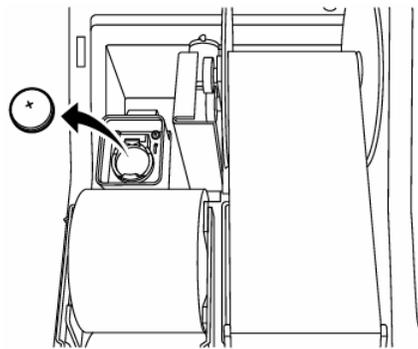

Fig.9
4. Remove the old battery by pushing the small claw on the rear end of the battery (See Fig.9).